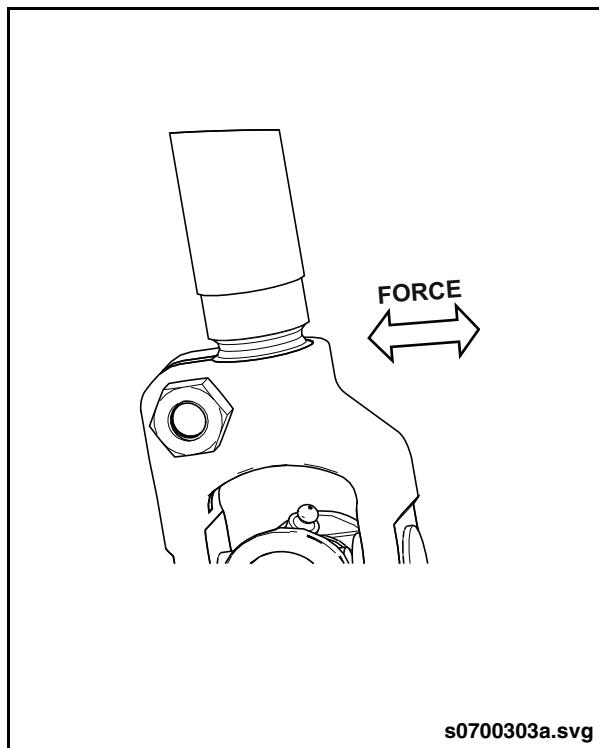

Fig. PM-17: Steering Driveshaft End Yoke Inspection
- a. Apply lateral side to side force on each end yoke and note the deflection in the area where the end yoke splines are clamped to the attaching component. See "Fig. PM-17: Steering Driveshaft End Yoke Inspection" on page 44.